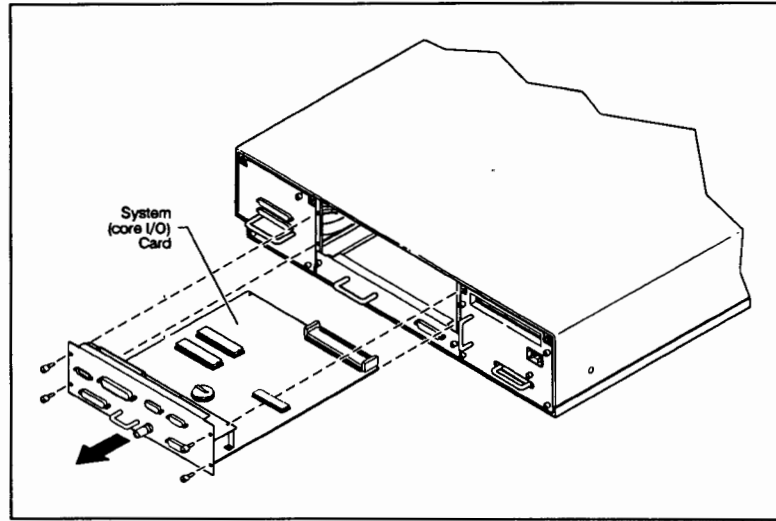

Figure 5-2. System (core I/O) Card Removal
- 2). Remove the System (core I/O) Card from the middle slot of the System Unit cabinet as shown in Figure 5-2.
- 4). Remove the System (core I/O) Card from the middle slot of the System Unit cabinet as shown in Figure 5-2.